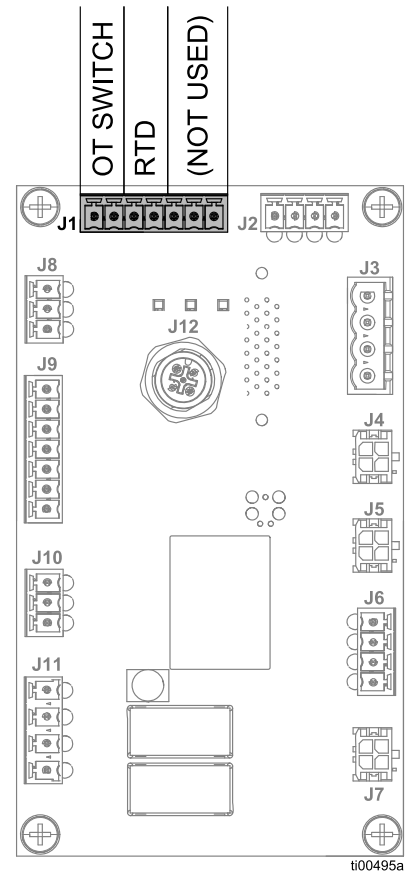

FIG. 73: Melter Control Connections (J1)
2. Remove the melter cover (10). See **Remove Equipment Covers**. Follow the steps on page 82.
4. See FIG. 73 and **Electrical Schematics**, page 105 for wiring details.
- b. Pull the RTD lead out of the electrical enclosure grommet (210).
- d. Pull the new RTD sensor through the electrical enclosure grommet (210).
6. Install the new temperature sensor (252) in the melter.
- a. Remove the temperature sensor retaining screw (264). Remove and discard the old temperature sensor (252).
- b. Install the new temperature sensor (252) in the melter and fasten with the retaining screw (264). Torque to 7-10 in-lb (0.7-1.0 N•m).
7. Install the melter cover (10) onto the equipment. See **Install Equipment Covers**, page 83.